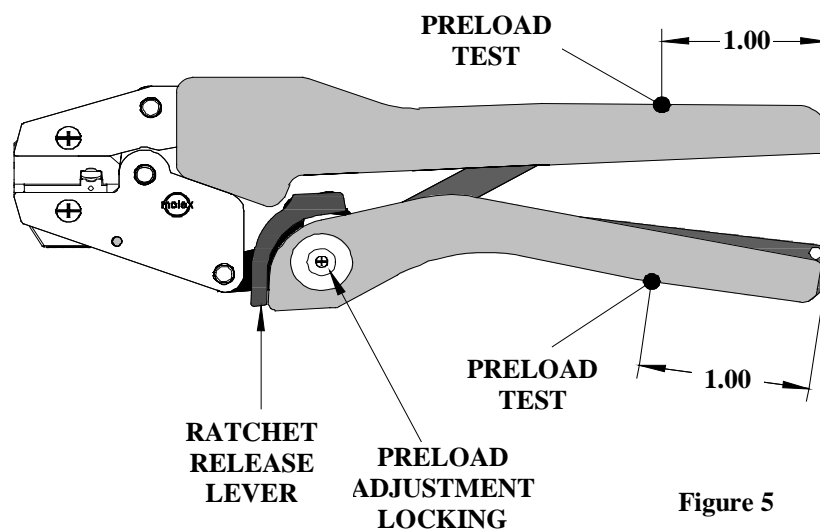

Figure 5
1. Should this tool ever become stuck or jammed in a partially closed position, **Do Not force the handles open or closed**. The tool will open easily by lifting the ratchet release lever (See Fig.5).
How To Adjust Tool Preload (See Figure 5)
A Certificate of Calibration (see last page) was supplied with the tool. To recalibrate this tool, pin gauge measurements should be taken in each conductor nest and compared to this chart. The tool should be lubricated prior to recalibration to ensure consistent measurements. Handle preload is factory set to 25-45 LBS. See How to Adjust Tool Preload (see Figure 5) to recalibrate.